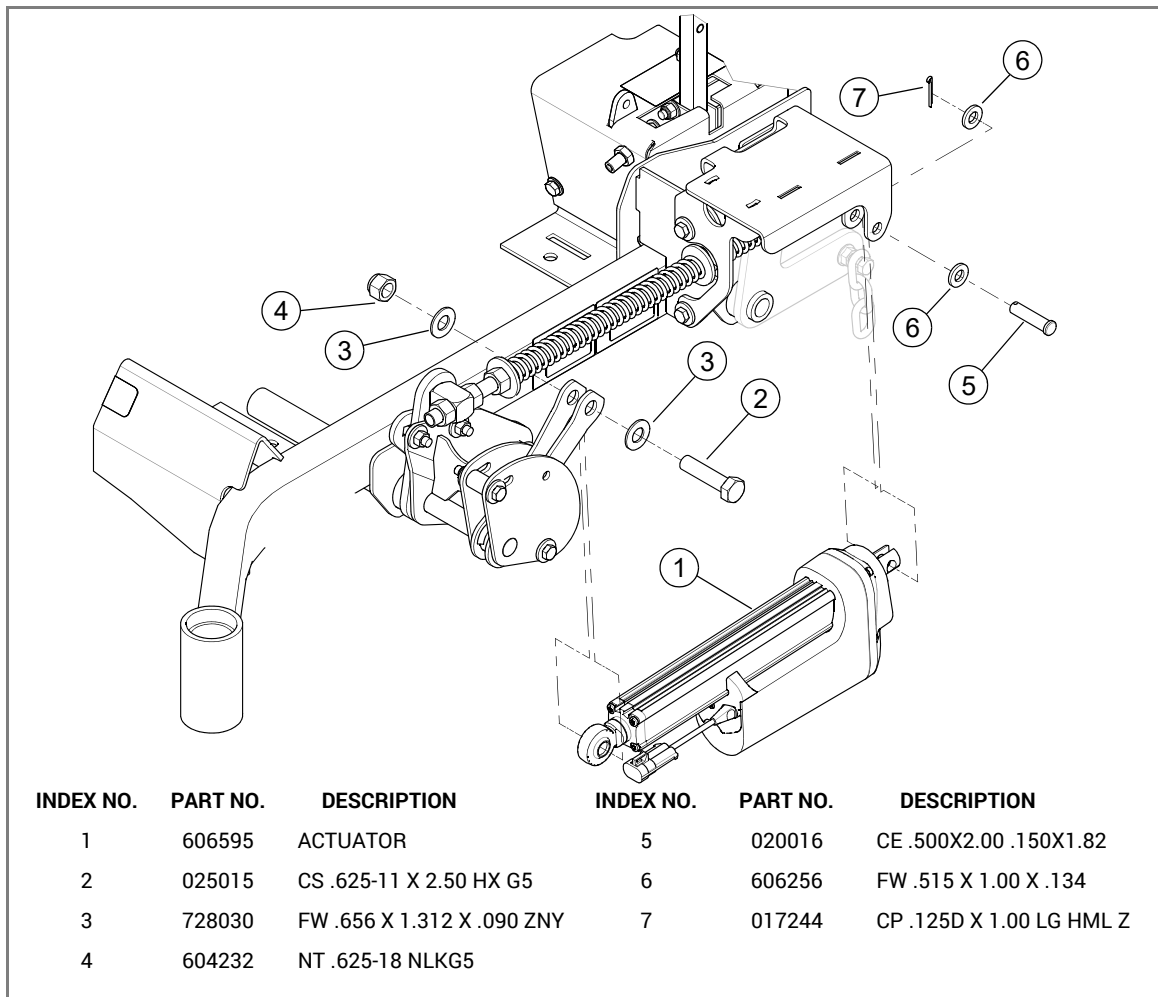

FIG. 10
17. Step on the deck lift pedal and raise the deck to allow the actuator to be connected to the mounting brackets on the deck lift mount assembly. Attach the actuator to the mounting brackets with the provided hardware. FIG. 10